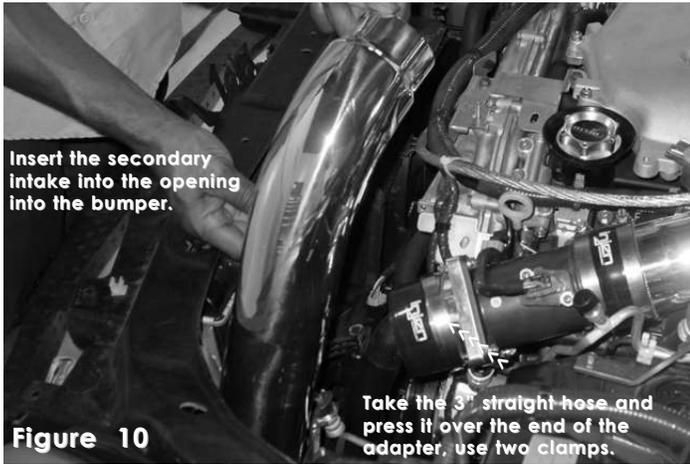

Figure 10
8. Take the 3" straight hose and press it over the round end on the adapter, again use two clamps but only tighten the clamp on the adapter at this point. (See fig. 10)
9. Take the secondary intake and insert the 3 1/2" end into the cavity between the head lamp and fender wall and into the bumper area. (See fig. 10)